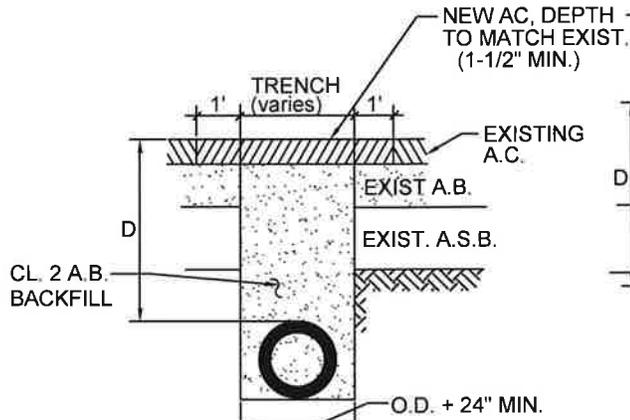

FIGURE 1
1. ASPHALT OR CONCRETE STREETS SHALL BE OVERCUT ONE FOOT GREATER ON EACH SIDE THAN THE TRENCH WIDTH. (FIGURE1)